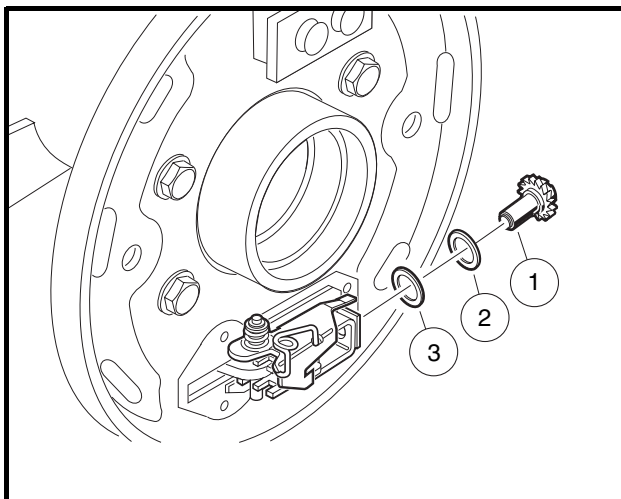

Figure 6-7 Remove Adjuster Wheel
- Remove adjuster wheel (1) with two washers (2 and 3) from the backing plate (**Figure 6-7, Page 6-4**).
7. Install the adjuster wheel (1) and two washers (2 and 3) into the adjuster assembly (**Figure 6-7, Page 6-4**).